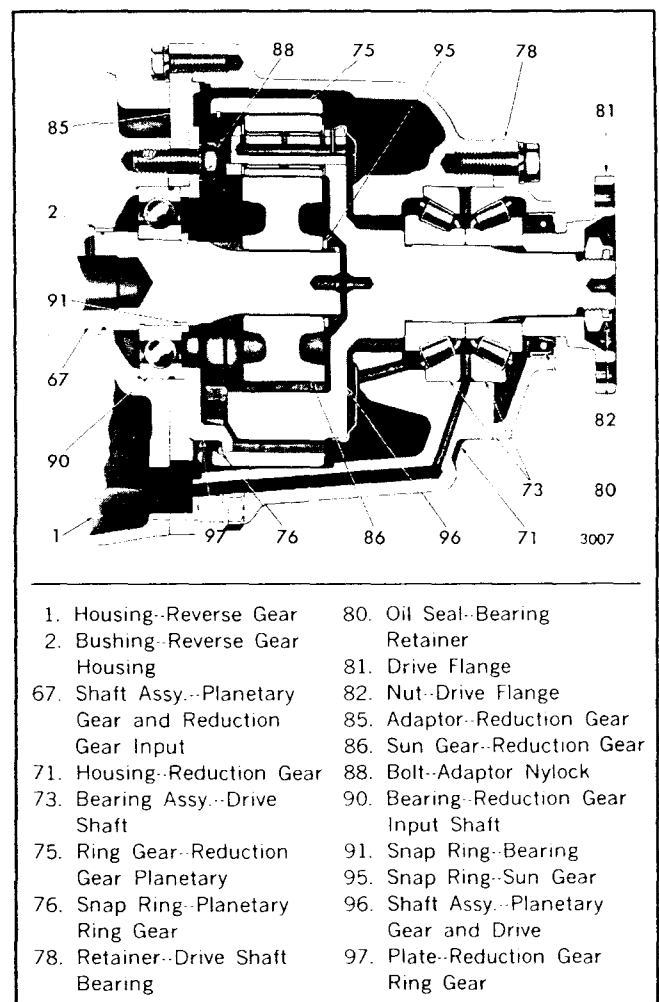

Fig. 5 - Reduction Gear Assembly (2.5:1 Ratio)
On the 2.5:1 and 3:1 ratio reduction gears shown in Fig. 5, remove the reduction gear adaptor (85), planetary ring gear plate (97) and ring gear (75) as an assembly from the reverse gear housing as follows: